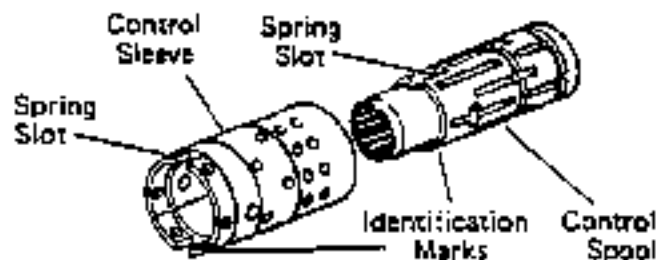

Figure 13
6. Assemble spool and sleeve carefully so that the spring slots line up at the same end. Rotate spool while sliding parts together. Some spool and sleeve sets have the marks as shown in Fig. 13. Test for free rotation. Spool should rotate smoothly in sleeve with finger tip force applied at splined end.